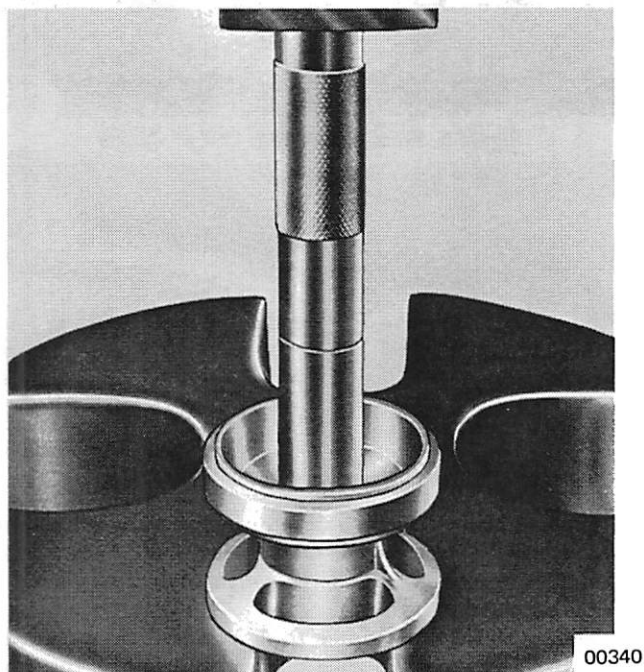

Figure 8. Installing Roller Bearings in Carrier
1. Press roller bearing into bearing carrier from rear of housing with Bearing Mandrel (C-91-24273). (Figure 8)